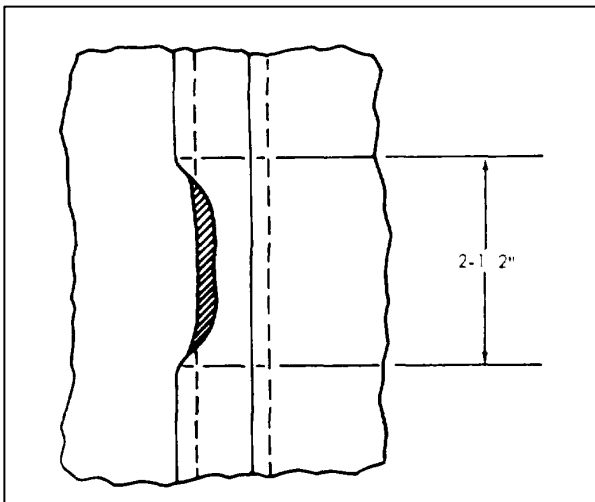

Figure 4-4. Seam Separation
- d. Repairing seams and tape separations 2 1/2 inches or less in length (see Figure 4-4).